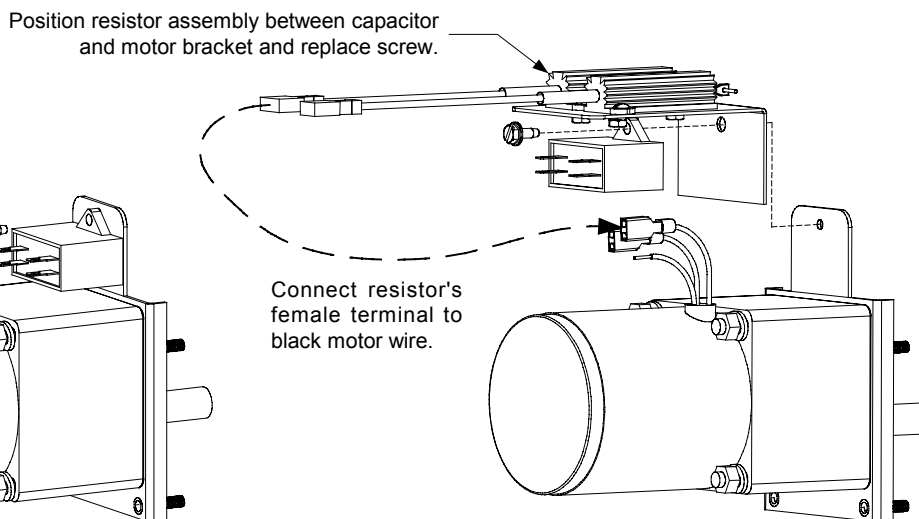

Figure 3
9. Connect the resistor wire with the female terminal to the black motor wire (15C) as shown in Figure 3.